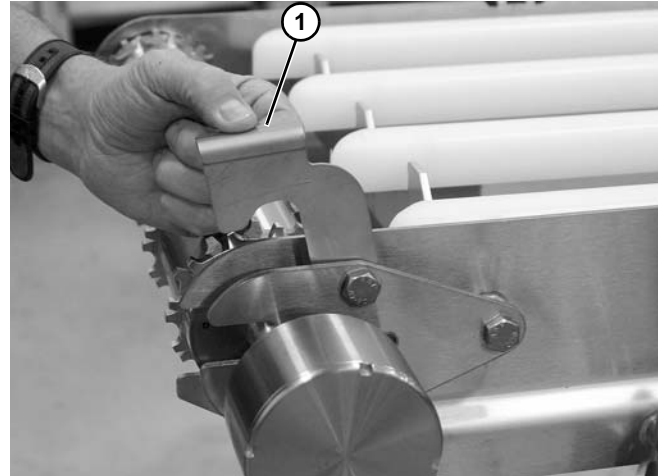

Figure 79
2. Raise spindle guard (Figure 79, item 1) on each side of conveyor.